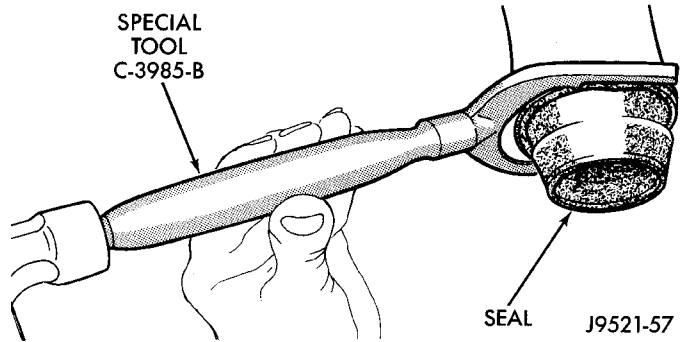

Fig. 18 Removing Overdrive Housing Yoke Seal
- (1) Raise vehicle.
- (2) Mark propeller shaft and axle yoke for alignment reference.
- (3) Disconnect and remove propeller shaft.
- (4) Remove old seal with Seal Remover C-3985-B (Fig. 18) from overdrive housing.